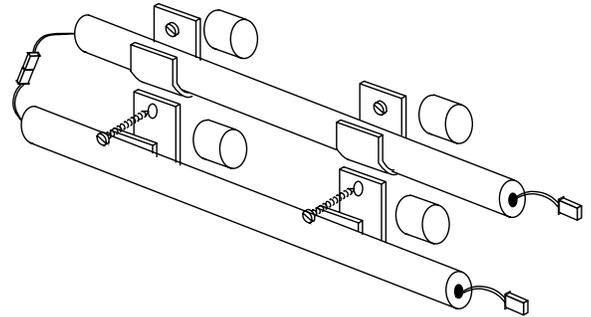

Figure 3
- ① Mount battery wands to wall using provided mounting clips (see Fig. 3). Be sure to locate the battery wands where they can reach the motor without interfering with shade/roller operation.